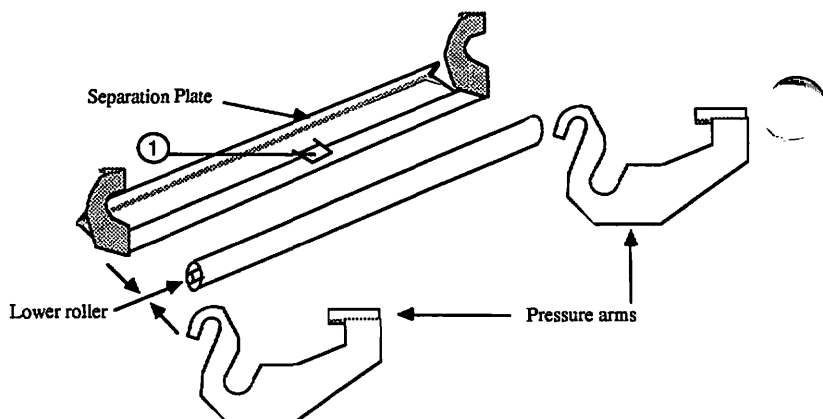

FIGURE 2-39
- c) Insert the tab on the back of the separation plate (Figure 2-39, #1) into the slot in the center of the fuser assembly plate (between the central black rollers).